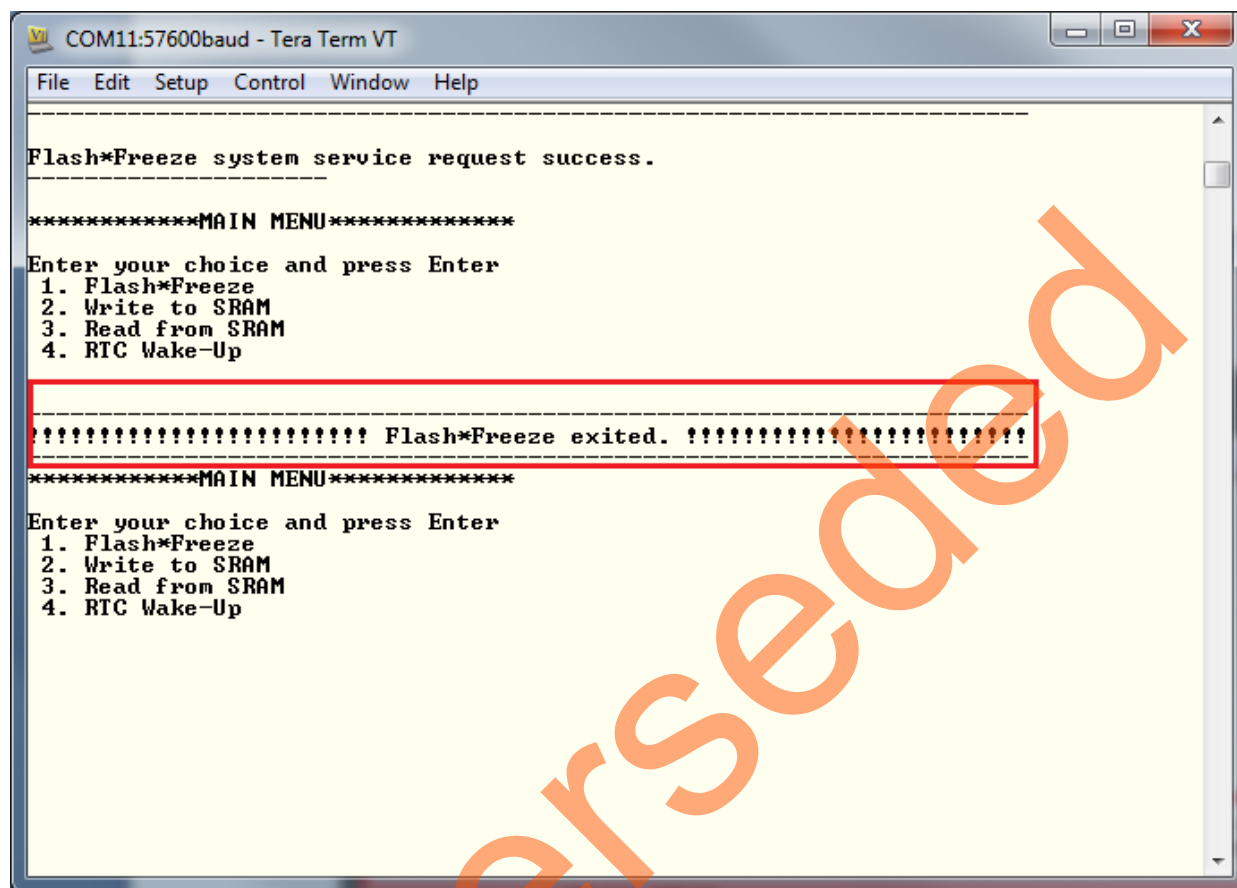

Figure 18 • I/O Activity F*F Exit Event
- To wake up the device from F*F mode, press **SW1** switch on the board. This indicates a change on L20 package pin I/O and wakes up the device from F*F, as shown in Figure 18.